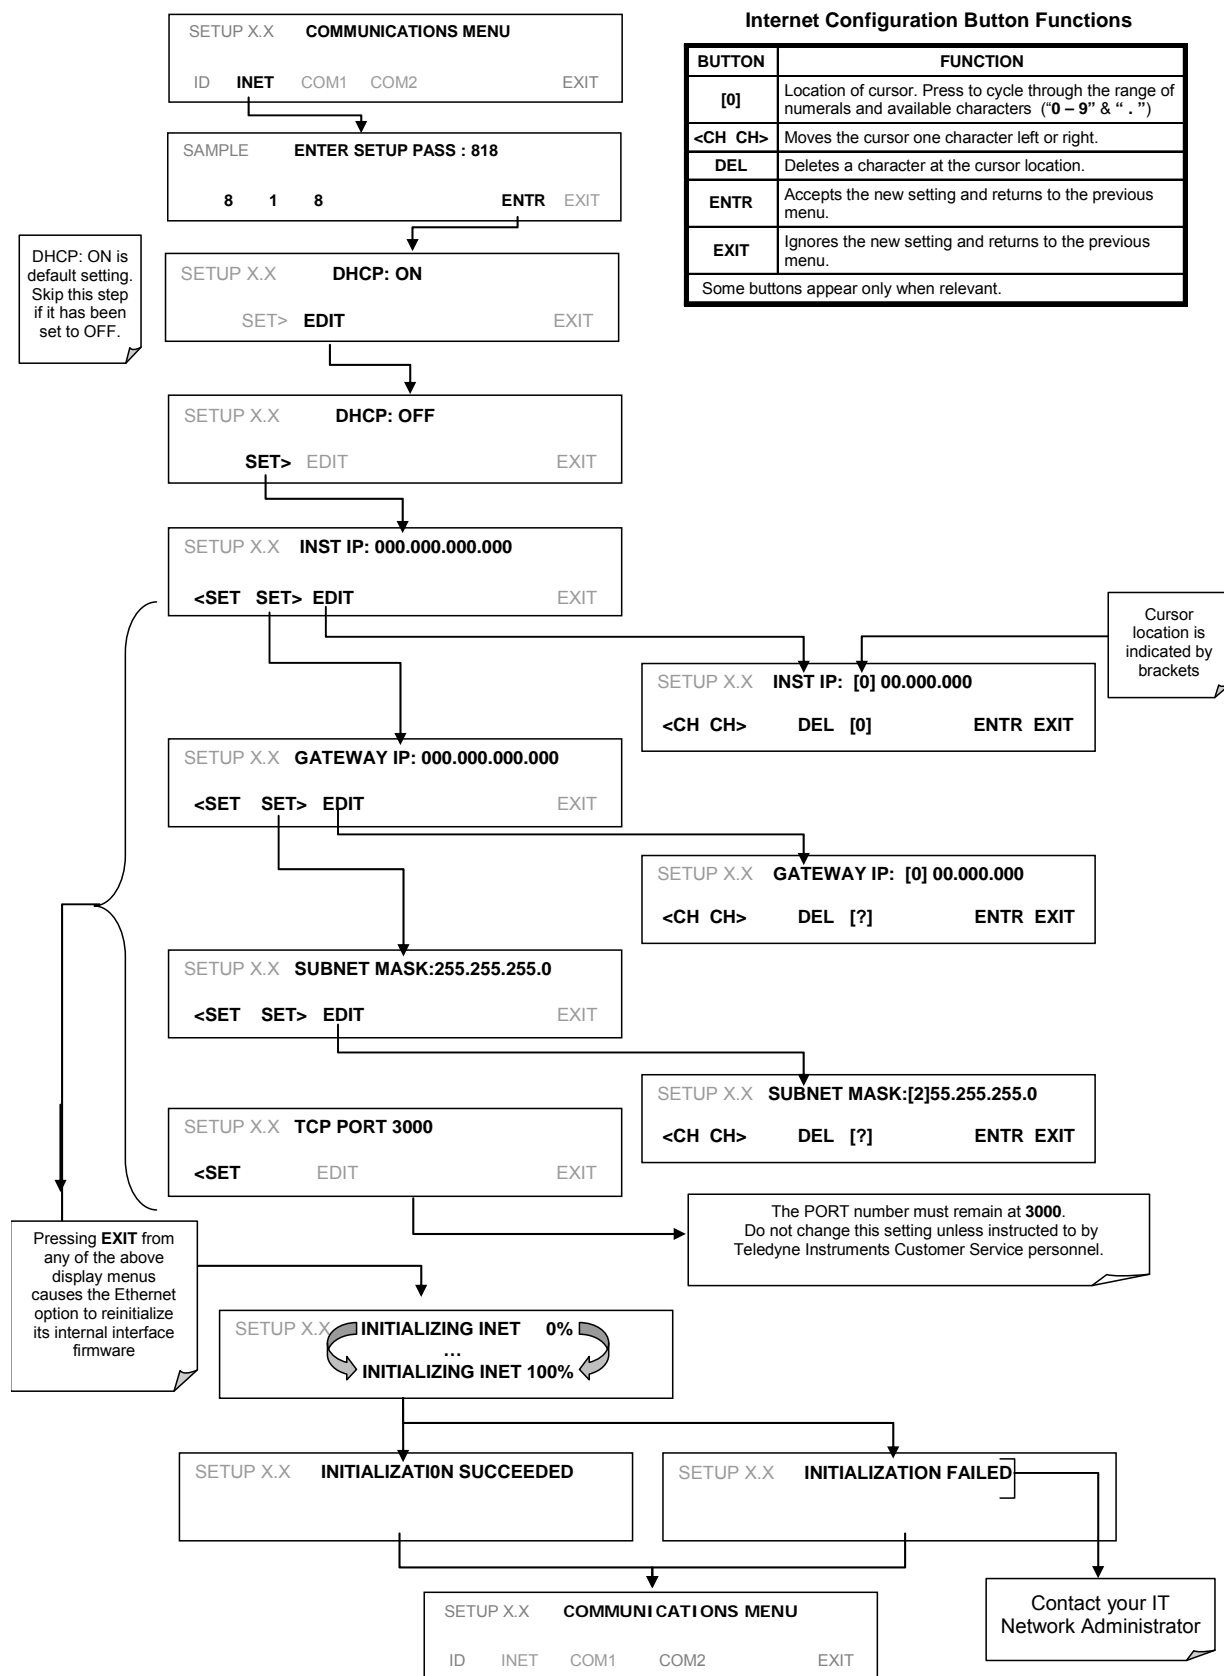

Figure 6-4: COMM – LAN / Internet Manual Configuration
3. Follow the setup sequence as shown in Figure 6-4, and edit the Instrument and Gateway IP addresses and Subnet Mask to the desired settings.